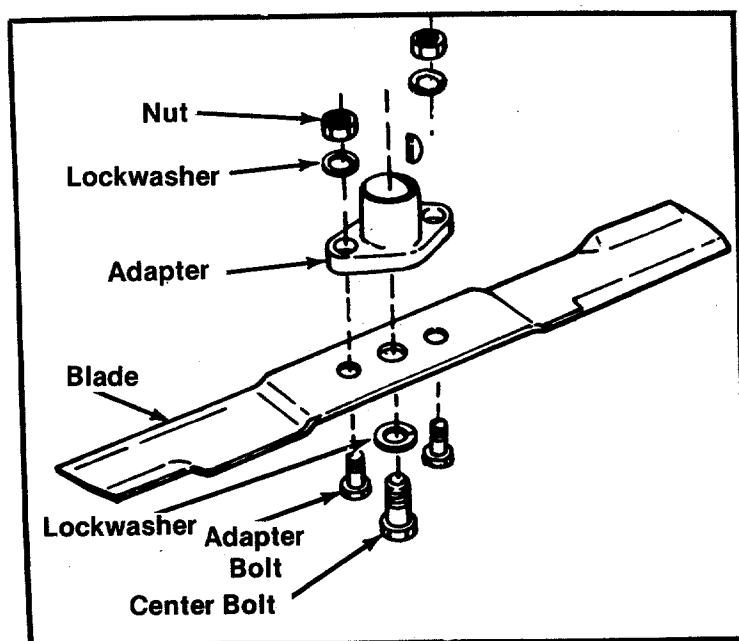

FIGURE 21. BLADE REMOVAL
Step 2. Remove the blade by removing the hex head cap screw in the center of the blade. Hold the blade with one hand and using a $\frac{1}{2}$ " open end, box or adjustable wrench, remove the bolt. See figure 21.
Step 2. Remove the blade by removing the hex head cap screw in the center of the blade. Hold the blade with one hand and using a 1/2" open end, box or adjustable wrench, remove the nut. See figure 21.